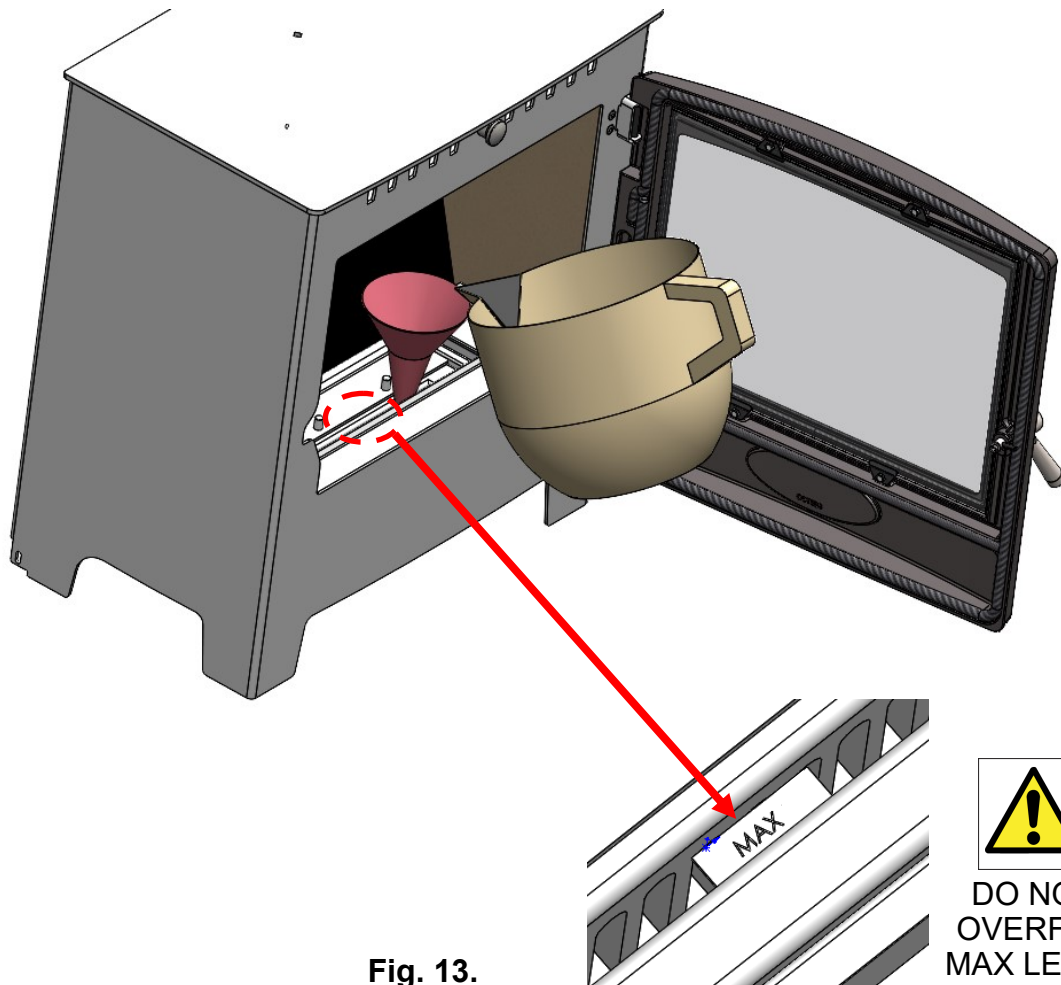

Fig. 13.
- Stop filling as soon as the Bio-ethanol fuel level reaches the **MAX** level within the burner opening. See Fig. 13.